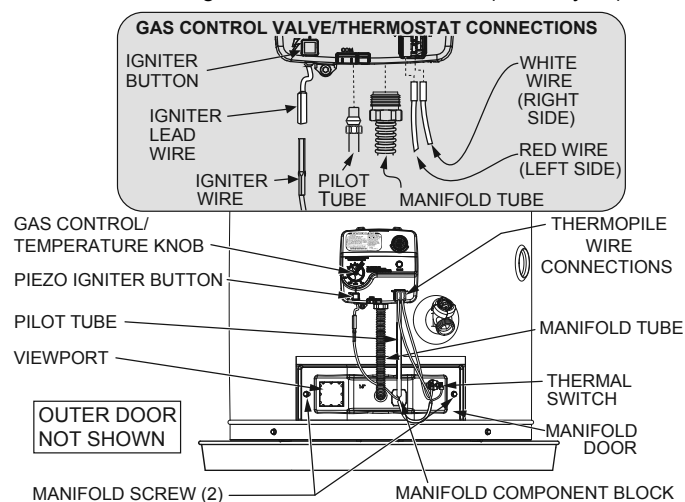

FIGURE 11.
5. Remove the two screws securing the installed manifold door assembly to the combustion chamber (Figure 11).
6. Disconnect the following from the gas control valve/thermostat: pilot tube, igniter wire, and manifold tube. See Figure 11.
7. Using needle nose pliers, disconnect the white and red thermopile wires from the gas control valve/thermostat (Figure 11).
6. Reconnect the manifold tube and pilot tube to the gas control valve/thermostat (Figure 11). Do not cross-thread or apply any thread sealant to the fittings. IMPORTANT: If you were supplied with a new ferrule nut in a parts kit, follow these steps to connect the pilot tube:
7. Connect the white and red thermopile wires to the gas control valve/thermostat. See Figure 11.